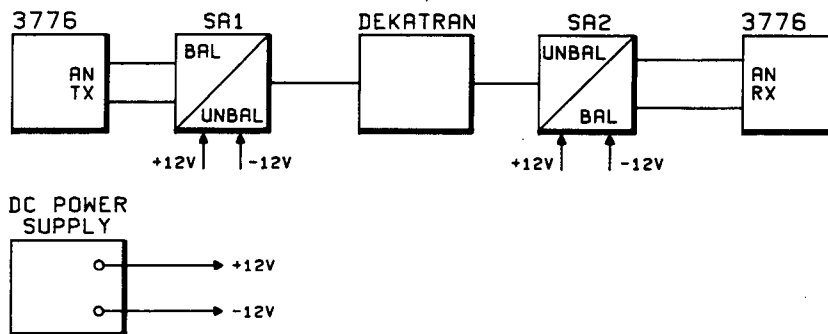

Figure 4-22 Analog to Analog (A-A) Gain Test Set-up
1. Connect the equipment as shown in Figure 4-22.